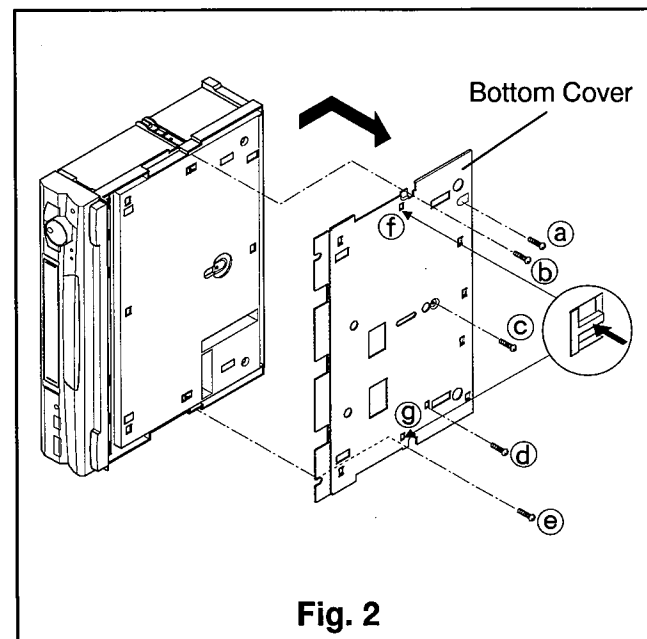

Fig. 2
- ① Remove five fastening screws (a~e) shown in Fig. 2.
- ② Push the two inside hooks (f and g), holding the Bottom Cover and slide the Bottom Cover toward the rear to remove it.